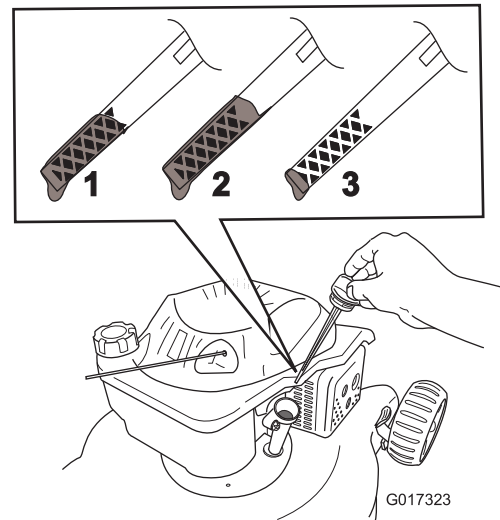

Figure 22
8. Remove the dipstick and read the oil level on the dipstick (Figure 22).